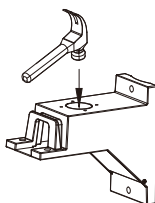

Fig 43
Step 1 .Use the hammer to hit the reserved photocell hole on the Type C bracket or lamp, as shown in Fig. 43